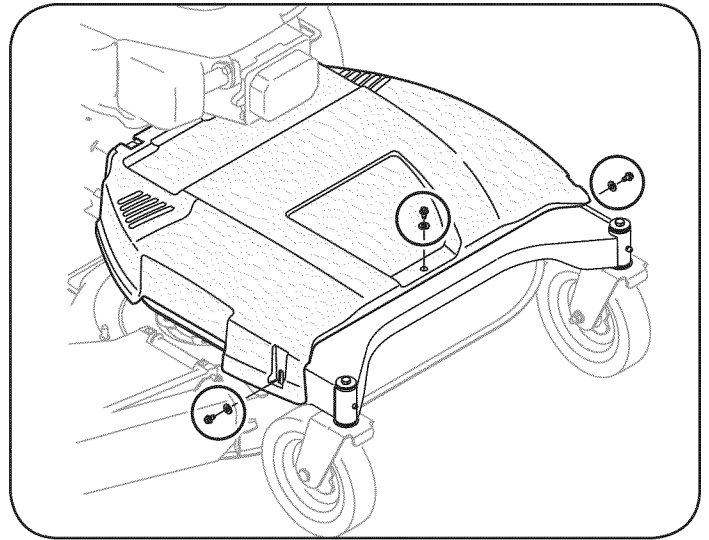

Figure 20
1. Remove the belt cover by removing the three screws and washers which secure it to the frame. See Figure 20.